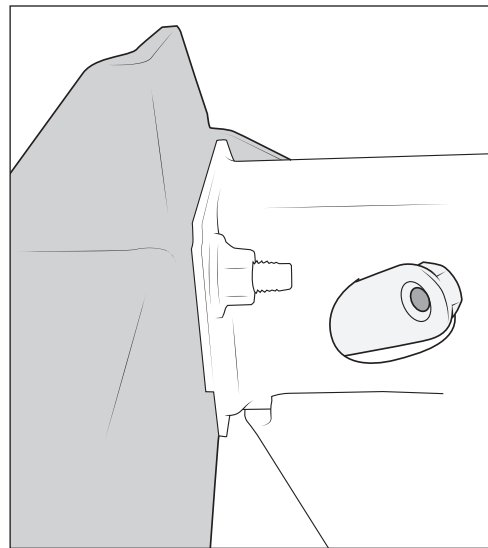

Figure 4
2. Insert flag nut into frame rail and start two M10 bolts (fig. 4).